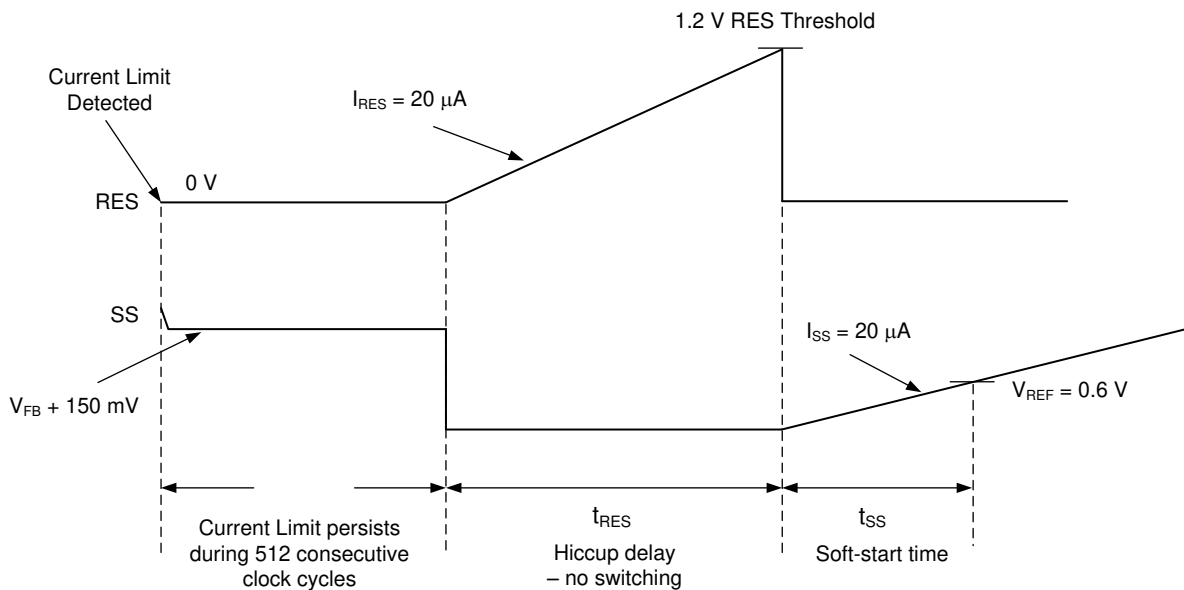

图 8-6. Hiccup Mode Timing Diagram
The LM5143-Q1 includes an optional hiccup mode protection function that is enabled when a capacitor is connected to the RES pin. In normal operation, the RES capacitor is discharged to ground. If 512 cycles of cycle-by-cycle current limiting occurs, SS is pulled low and the HO and LO outputs are disabled (see 图 8-6). A $20\text{-}\mu\text{A}$ current source begins to charge the RES capacitor. When the RES voltage increases to 1.2 V , RES is pulled low and the SS capacitor begins to charge. The 512-cycle hiccup counter is reset if four consecutive switching cycles occur without exceeding the current limit threshold. Separate hiccup counters are provided for each channel, but the RES pin is shared by both channels. One channel can be in hiccup protection while the other operates normally. In the event that both channels are in an overcurrent condition triggering hiccup protection, the last hiccup counter to expire pulls RES low and starts the RES capacitor charging cycle. Both channels then restart together when $V_{RES} = 1.2\text{ V}$. If RES is connected to VDDA at power up, the hiccup function is disabled for both channels.
- t_{RES} is the specified hiccup delay as shown in 图 8-6